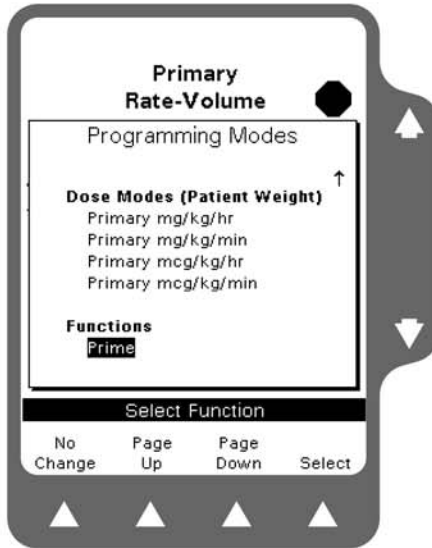

Figure 5-28 Programming Modes Menu
4. Use the $\uparrow\downarrow$ keys to highlight Prime (under Functions), then press the **Select** soft key (Figure 5-28).